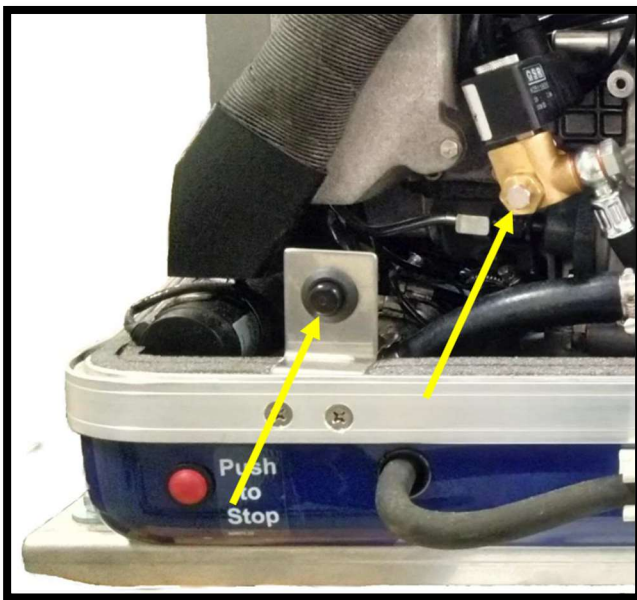

Figure 25: Failure bypass switch.
2. Press the fuel primer button (left arrow in Figure 25) for 3 minutes.
3. Check for air in the fuel by opening the fuel bleeder screw (right arrow in Figure 25) at the injection pump while pressing the fuel primer button.